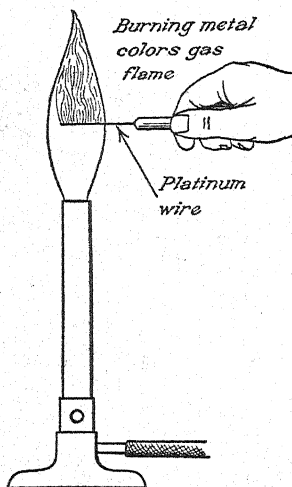

FIG. 267. — Some metals impart to the flame a characteristic color.
**461. Flame Tests for Metals.** If we dip a clean platinum wire into a solution of some sodium salt, and then hold the wire in the colorless flame of a burner, we find that the sodium compound volatilizes and imparts to the flame an *intense yellow* color. (See Fig. 267.) Potassium and its compounds, when treated in a similar manner, impart to